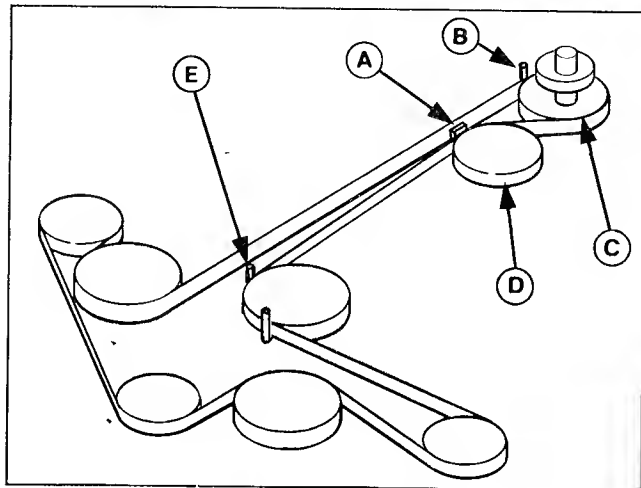

Figure 11A. 42" Mower Belt Pattern
3. Remove pin and washer to disconnect the PTO lever (C). Remove the clip and pin that secures the lift clevis (D).
4. To slip belt off the engine pulley (C, figure 11A or 11B), loosen the idler pulley belt guide (A).
2. Slip belt onto the engine pulley. Refer to figure 11A or 11B for pattern. Be sure there are no twists in belt.
6. Position the belt guide (A, figure 11A or 11B) and belt stops (B and E) 1/16 to 1/8 inch from belt with belt engaged. Tighten securely.